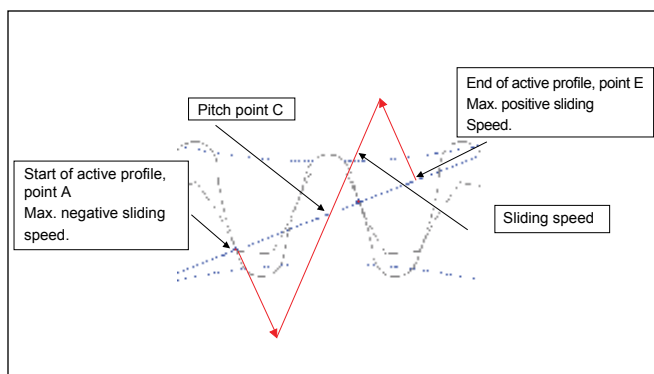

Figure 1—Variation in drive gear sliding speed with mesh phase (position).
Gear mesh friction. Figure 1 illustrates that as the tooth
pair moves along the line of action, the combination of sliding and rolling changes throughout the mesh cycle. Pure rolling occurs at the pitch point (point C in Figure 1), but as contact moves away from the pitch point, sliding increases. Meshing gear pairs require a lubricating film to separate the gear surfaces, but if this film breaks down, a failure mode called scuffing occurs (Fig. 2). When the lubrication film breaks down, the gear tooth surfaces instantaneously weld together and are then pulled apart due to the combination of rolling and sliding that occurs during the mesh cycle. Gear lubricants have been developed over many years to prevent this with extreme pressure (EP) additives, generally sulfur-based, which bond to the gear surfaces and thus prevent metal-to-metal contact. However, the additive packages make gear oil unpleasant to handle and significantly increase the environmental impact of the lubricant when it is disposed.
Each of these quantities varies through the mesh cycle, depending on the instantaneous position of the mesh point between A (start of active profile) and E (end of active profile) shown in Figure 1, but they also vary across the face width (b) as discussed below:
- The normal force (F_N) depends on the number of teeth in mesh (affected by transverse contact ratio and overlap ratio) and load distribution due to manufacturing errors and elastic deflection of the gear teeth, the gear shafts and housing. The actual load is required at each phase of the gear mesh along the path of contact (x) from (A–E) in Figure 1 to accurately estimate gear losses.